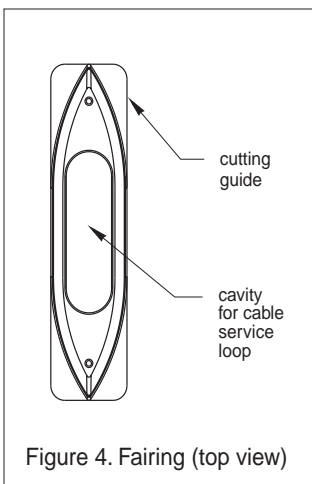

Figure 4. Fairing (top view)
1. From outside the hull, position the fairing at the selected location. The stuffing tube will be located in about the center of the oval cavity (see Figure 4).
4. Place the fairing on the table so the cutting guide rests against the fence. Note the fairing is symmetrical (see Figures 4 and 6).
1. Hold the fairing against the outside of the hull with the stuffing tube in the center of the cavity (see Figure 4). The fairing *must* be parallel to the centerline of the boat (keel). Using the *forward* hole in the fairing (nearest the bow) as your guide, drill a 14mm or 9/16" diameter hole through the hull for one threaded rod.